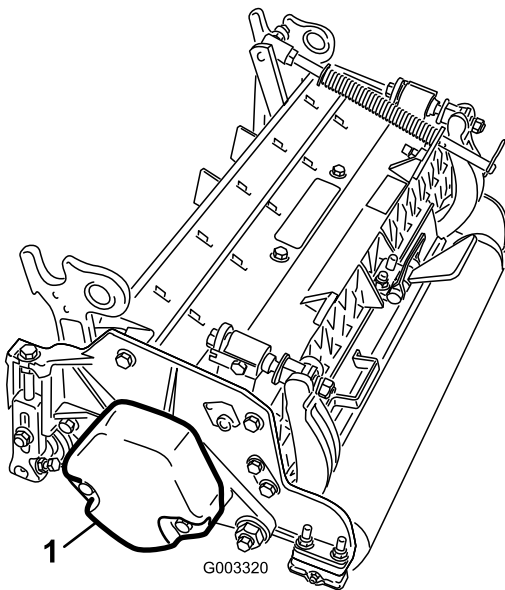

Figure 6
2. Remove the counterweight (Figure 6).